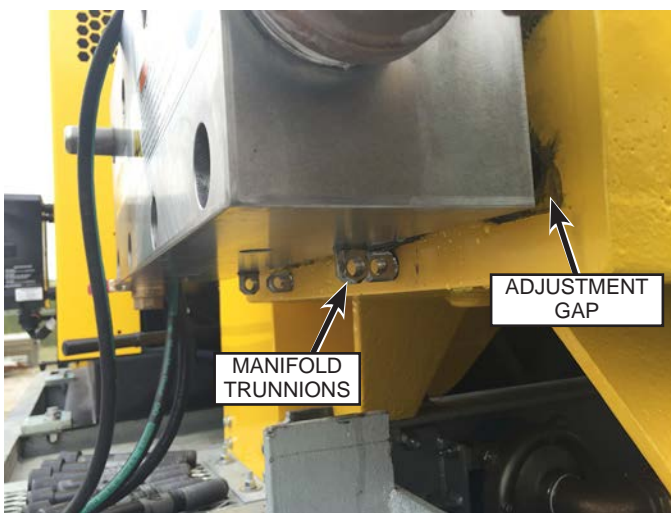

Fig. 55: Manifold in Adjustment Position
- a. Slide the manifold away from the powerframe (or adapter plate) a few inches (Fig. 55). This will allow room to adjust the threaded trunnions in the bottom of the manifold.
- b. Screw both manifold trunnions (Fig. 55) in completely and then back both out 2½ turns. Slide the manifold back against the powerframe (or adapter plate).